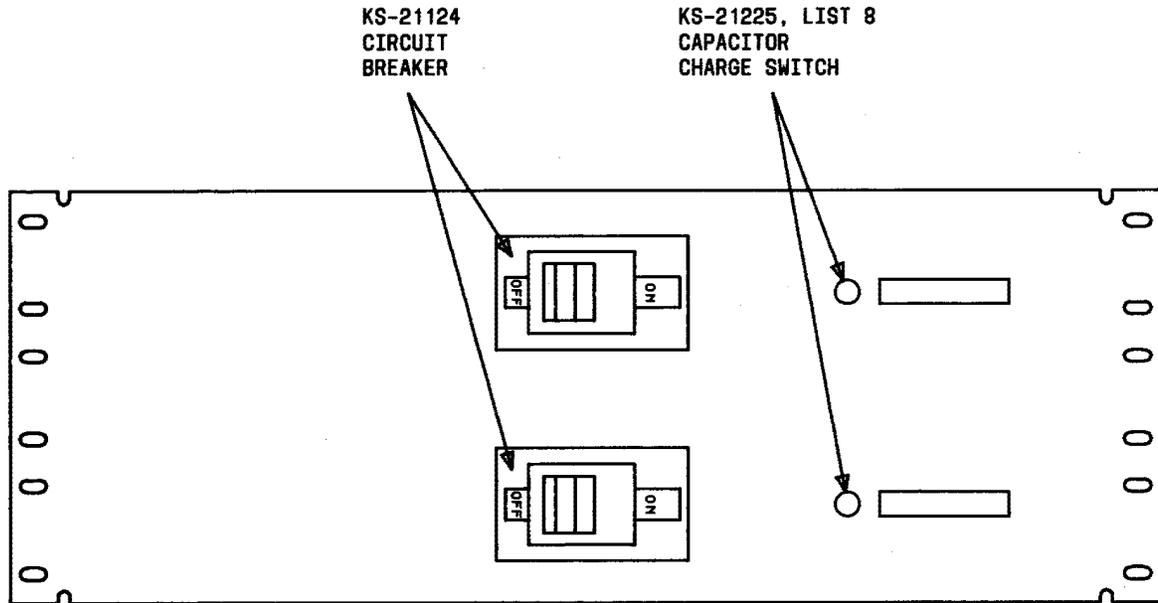
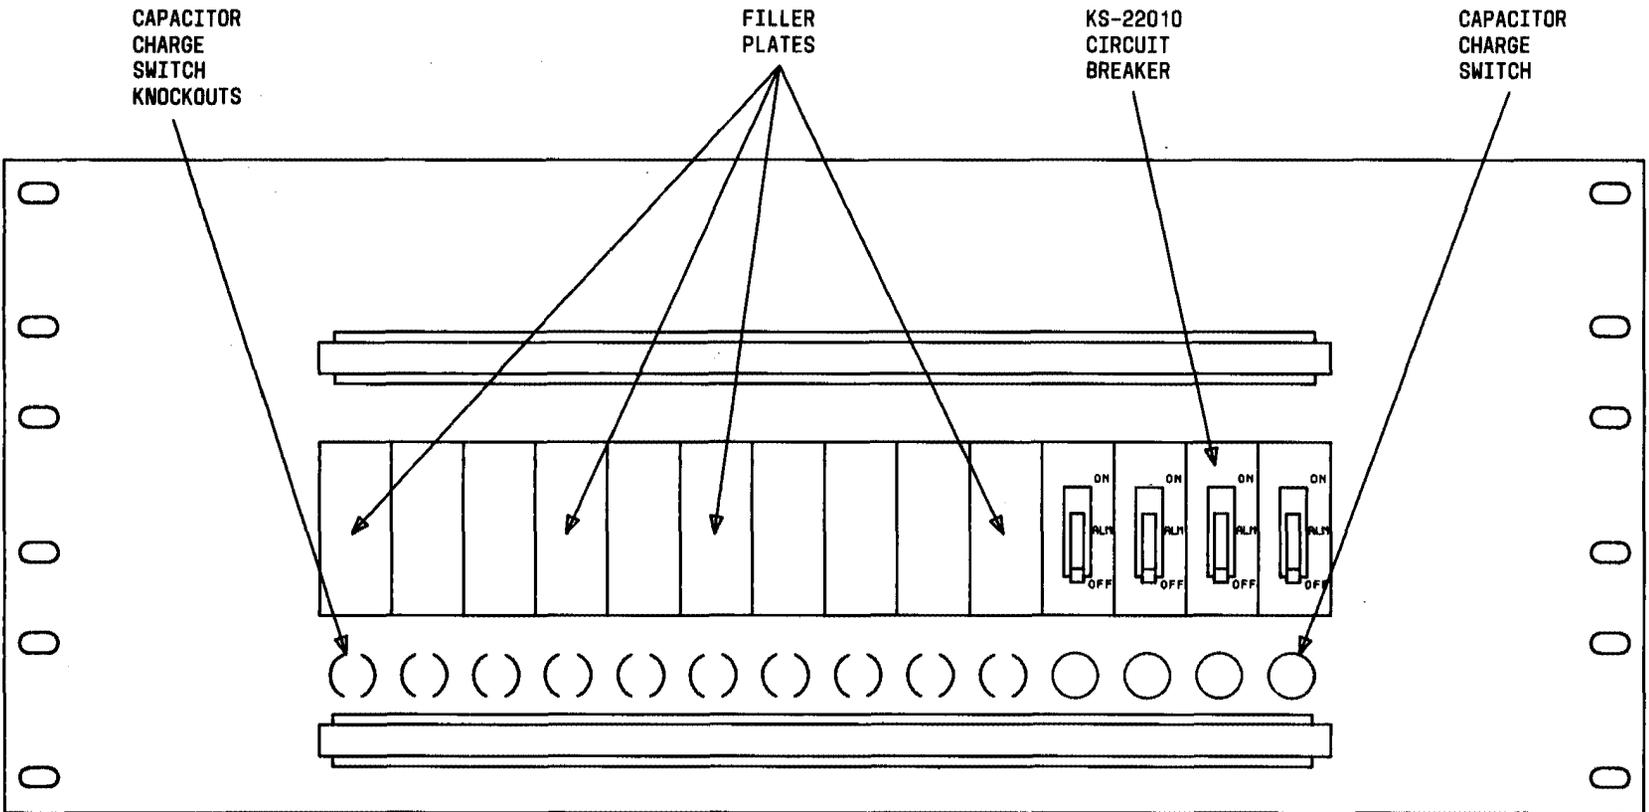

Fig. 10—KS-21124 Circuit Breakers Equipped With KS-21225, L8, Charge Switches Mounted on ED-82835-30, G4, Panel
Fig. 11—KS-22010 Circuit Breakers Mounted on ED-82835-30, G2, Panel
- KS-21124 (see Fig. 10)
- KS-22010 (see Fig. 11)
These circuit breakers are dc, single-pole, toggle switch, magnetic-type provided with an alarm switch. When the breakers are tripped by an overcurrent, the toggle switch moves to a midposition between the ON and the OFF position. With the breaker in the tripped position, a normally open alarm switch is closed. To reset the breaker, set the breaker to the OFF position, then to the ON position. To precharge the load, the KS-22010 and the KS-22012 circuit breakers are equipped with an internal charge switch. (See Fig. 11 and 12.) To precharge the load protected by the KS-21124 circuit breaker, an auxiliary KS-21225, List 8, charge switch is mounted adjacent to the circuit breaker (Fig. 10).